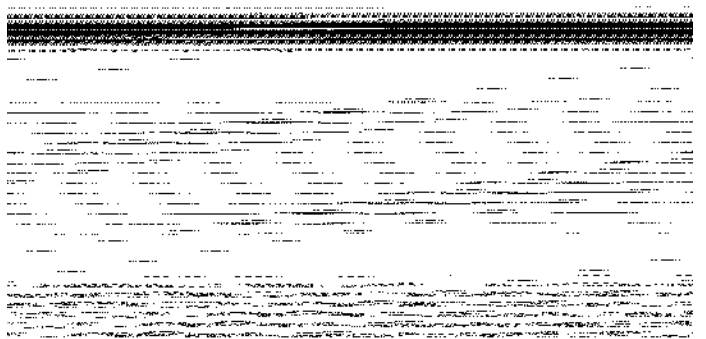

Figure 3.
3. This device must be located in a venting system or section of a venting system so that it serves only the single appliance for which it is installed. (See figure 3.)